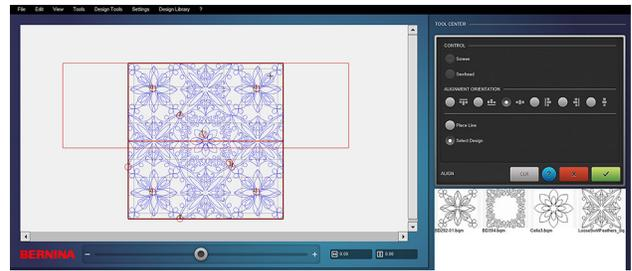

Fig. 81
- Repeat this process selecting the Horizontal Center alignment option (Fig. 81).